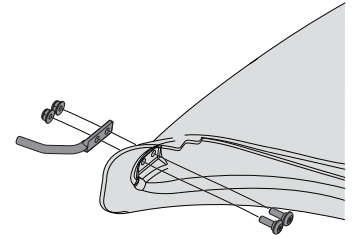

Figure 16
- Install the boot rod mount (747-06043) to the boot using two shoulder screws (738-1225) and two flange lock nuts (712-04064) from hardware pack 689-00636. Ensure that the shoulder screws are installed on the interior of the boot. See Figure 16.